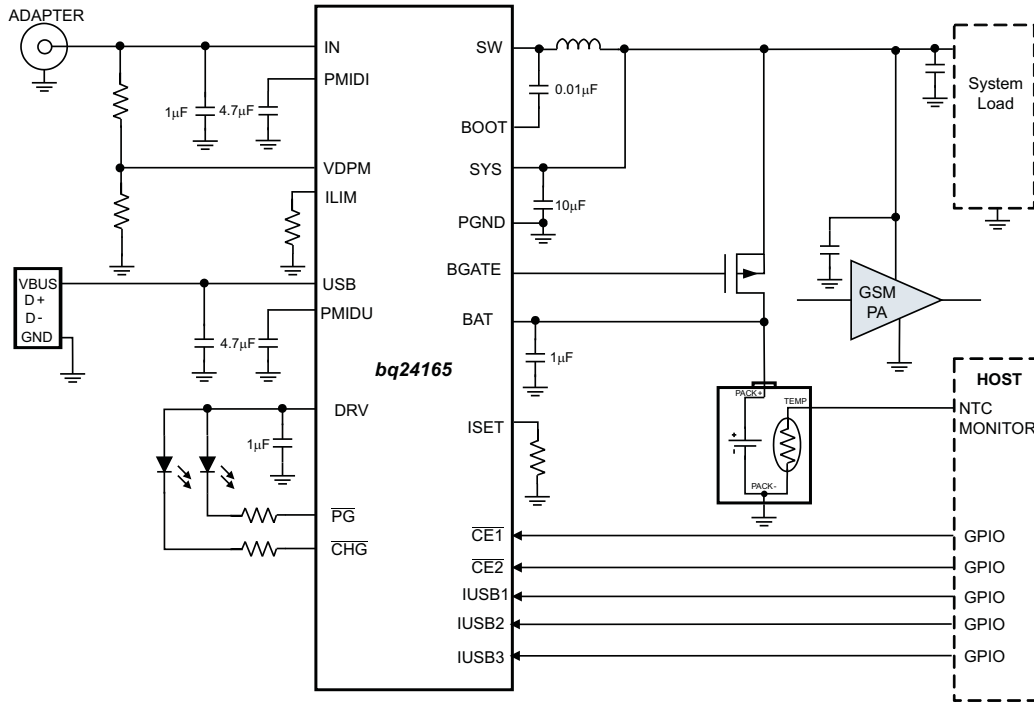

Figure 1. bq24165, Shown with External Discharge FET, PA Connected to System for GSM Call Support with a Deeply Discharged or No Battery
Circuit of Figure 1, $V_{SUPPLY} = V_{USB}$ or V_{IN} (whichever is supplying the IC), $V_{UVLO} < V_{SUPPLY} < V_{OVP}$ and $V_{SUPPLY} > V_{BAT} + V_{SLP}$,
The charger's constant current (CC) loop regulates the charge current to I_{CHARGE} until the battery reaches close to the regulation voltage. Once the battery voltage is close to the regulation voltage, V_{BATREG} , the charge current step downs sharply as the constant voltage (CV) loop takes over, the internal battery FET turns on full, tying SYS to BAT and the charger tapers down the charge current as shown in Figure 1. The voltage regulation feedback occurs by monitoring the battery-pack voltage between the BAT and PGND pins.